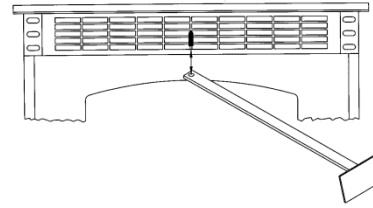

FIGURE 22
- With the door closed clean heat exchanger tubes. (See "**CLEANING**" and Figure 22).
- Clean heat exchanger tubes (see "**CLEANING**" and Figure 22).
- a. **Heat Exchange Tubes** – Your Breckwell stove is designed with a built-in heat exchange tube cleaner. This should be used every two or three days to remove accumulated ash on the tubes, which reduces heat transfer on the P24. Insert the handle end (with hole) of the cleaning tool onto the cleaning rod (refer to figure 22). The cleaner rod is located in the grill above the stove door. Move the cleaner rod back and forth several times to clean the heat exchanger tubes. Be sure to leave tube cleaner at the rear of the stove.